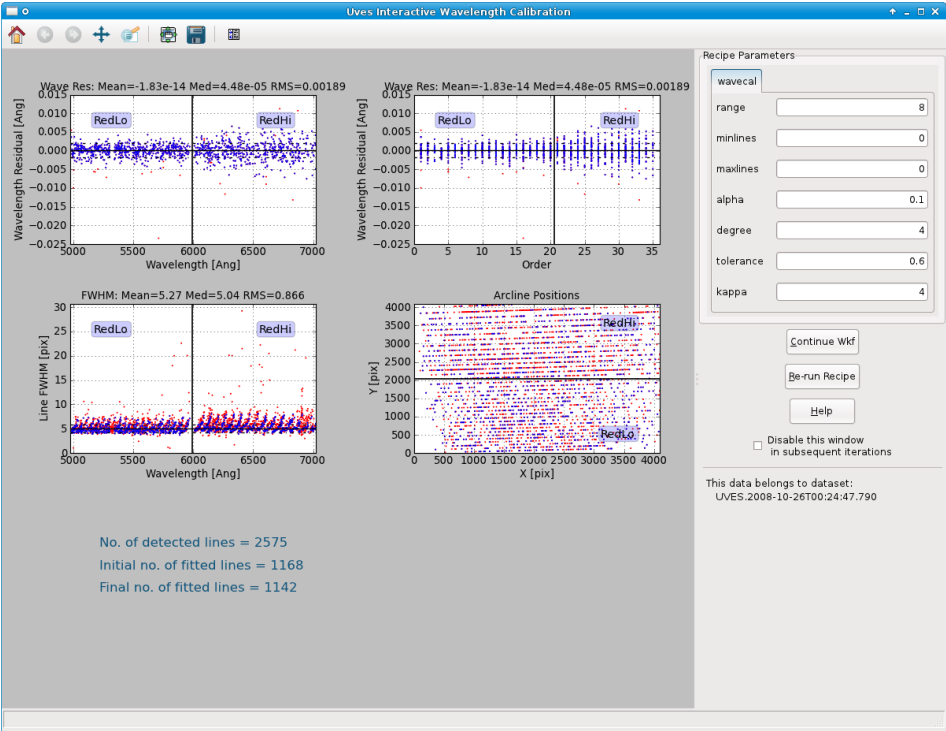

Figure 7.1: The interactive window for the Wavelength Calibration actor for the first DataSet in the data supplied with Reflex 2.4.
11. **Wavelength Calibration:** The next interactive window that will appear (see Figure 7.1) is associated with the execution of the `Wavelength Calibration` actor, which executes the UVES pipeline recipe `uves_cal_wavecal`. This pipeline recipe determines the wavelength calibration solution from an appropriate arc-lamp frame and a line reference catalogue. The top two plots in the interactive window show the wavelength calibration residuals for arc lines that were identified in the input line reference catalogue as a function of wavelength and spectral order. Blue points represent arc lines that were used in the final solution, and red points represent arc lines that were excluded from the final solution. The bottom-left plot shows the arc line FWHM as a function of wavelength, and the bottom-right plot displays the positions of all detected arc lines on the detector.